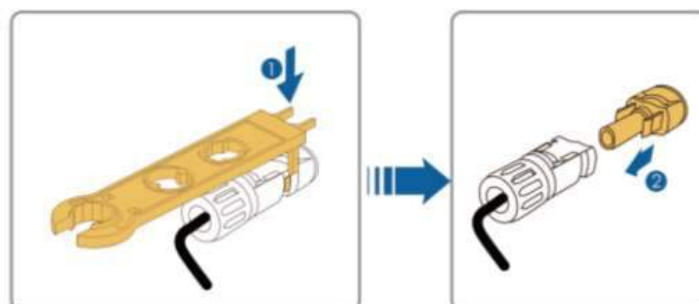

Fig. 4-53 Remove the DC connector
- 5) Insert a MC4 wrench into the notch and press the wrench with an appropriate force to remove the DC connector (Fig. 4-53).